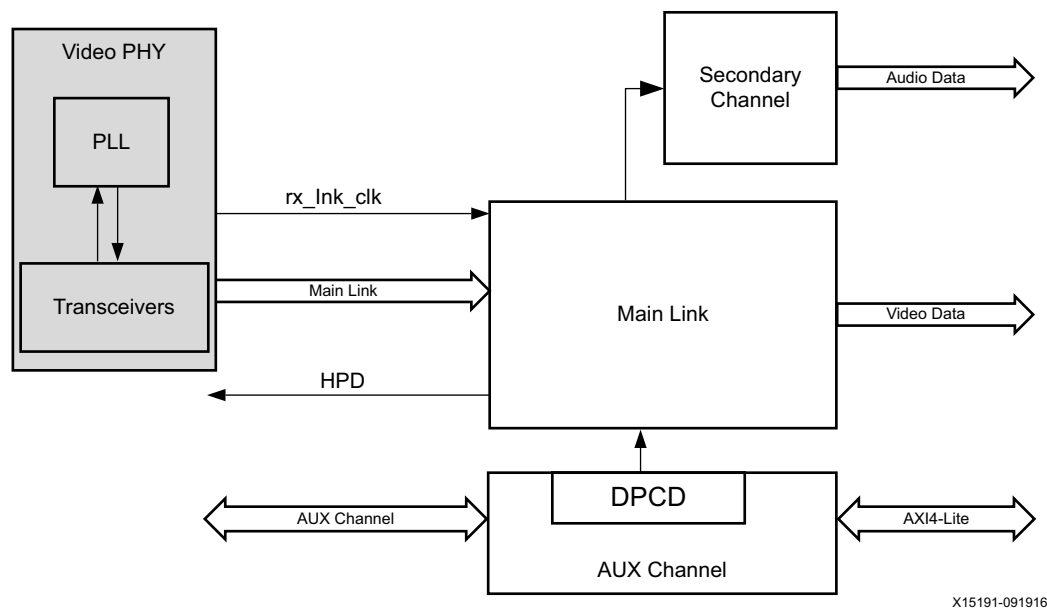

Figure 2-7: DisplayPort 1.4 RX Core Block Diagram
The DisplayPort Receive (RX) core contains the following four major blocks as shown in Figure 2-7: